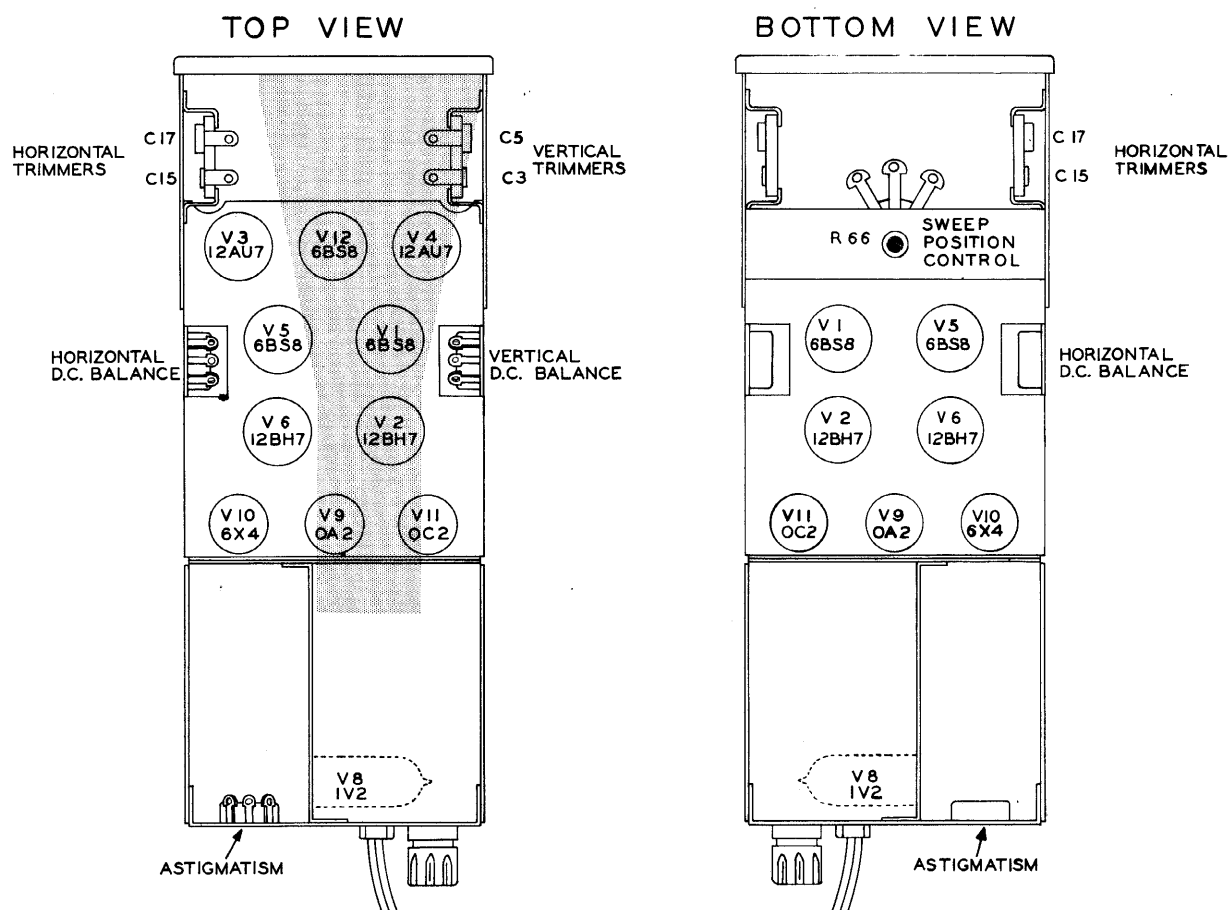

Figure 23
- ( ) Refer to the tube location Figure 23 and install the tubes. Also install one of the fuses in the fuse holder.
**NOTE:** Figure 23 shows tube and adjustment control locations.